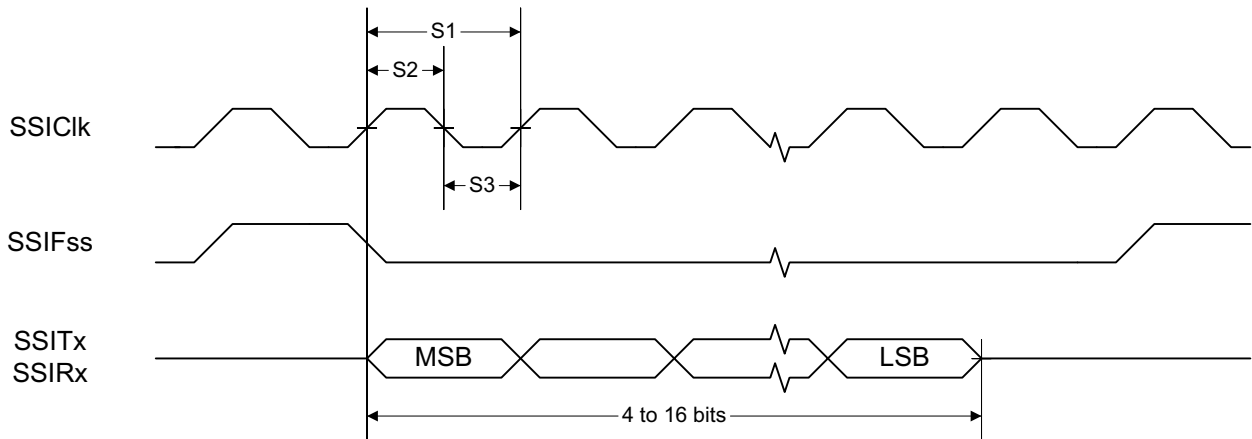
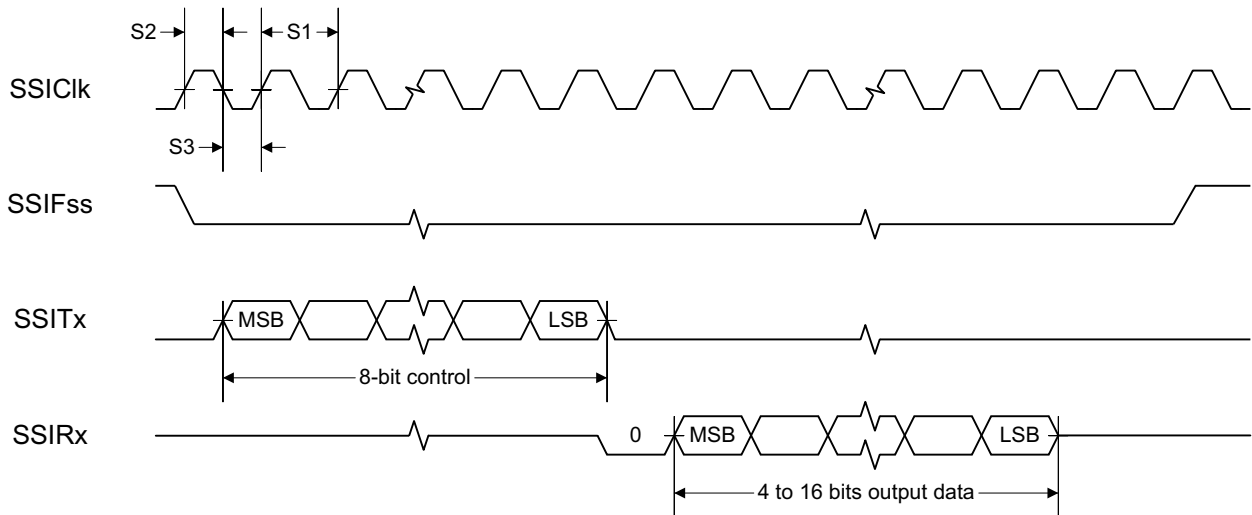
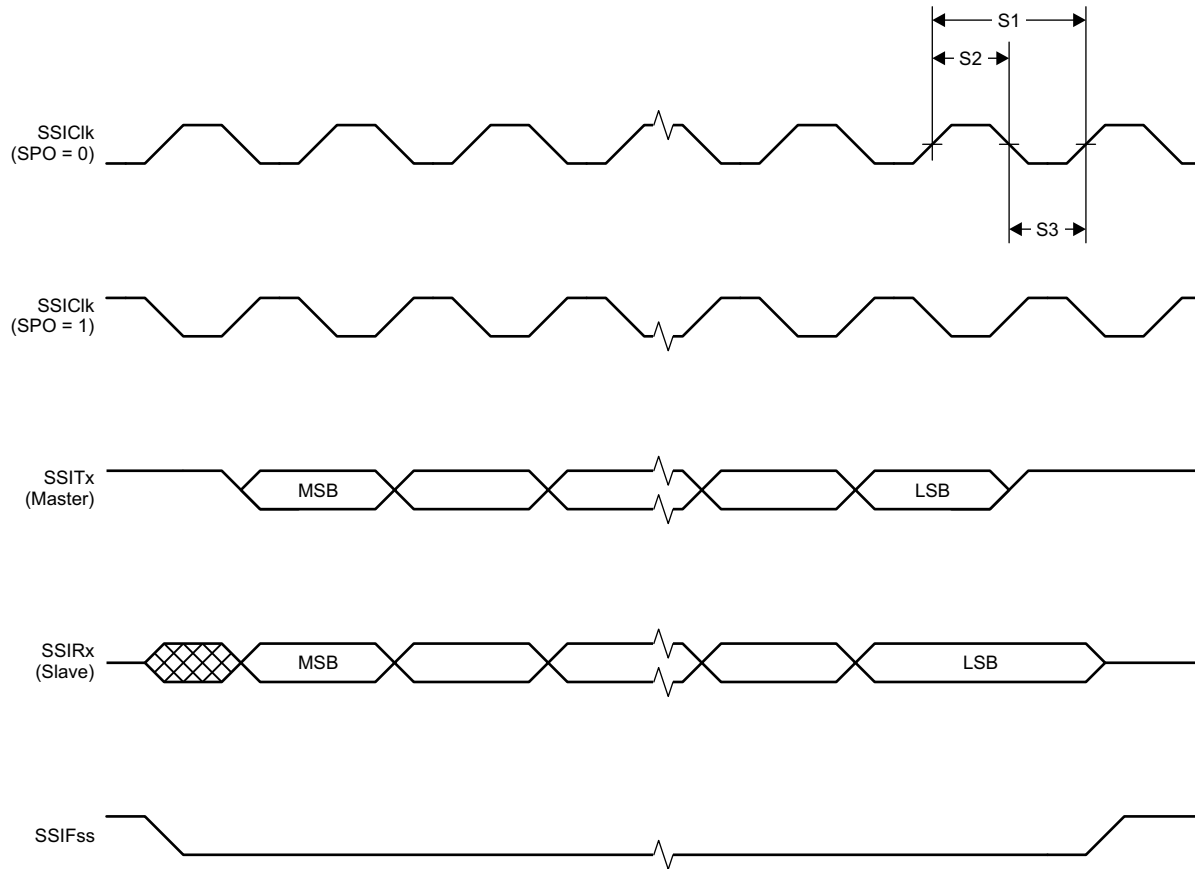

Figure 5-1. SSI Timing for TI Frame Format (FRF = 01), Single Transfer Timing Measurement
Figure 5-2. SSI Timing for MICROWIRE Frame Format (FRF = 10), Single Transfer
Figure 5-3. SSI Timing for SPI Frame Format (FRF = 00), With SPH = 1
(1) For smaller coin cell batteries, with high worst-case end-of-life equivalent source resistance, a 22-μF VDD input capacitor (see Section 7.1.1) must be used to ensure compliance with this slew rate.
(2) Applications using RCOSC\_LF as sleep timer must also consider the drift in frequency caused by a change in temperature (see Section 5.14).
(3) TA = -40°C to +85°C, VDD = 1.7 V to 3.8 V, unless otherwise noted.
(4) Tc = 25°C, VDD = 3.0 V, unless otherwise noted. Device operating as slave. For SSI master operation, see Section 5.24.
(5) Refer to the SSI timing diagrams Figure 5-1, Figure 5-2, and Figure 5-3.
- (1) Device operating as master. For SSI slave operation, see Section 5.23.
- (2) Refer to SSI timing diagrams Figure 5-1, Figure 5-2, and Figure 5-3.